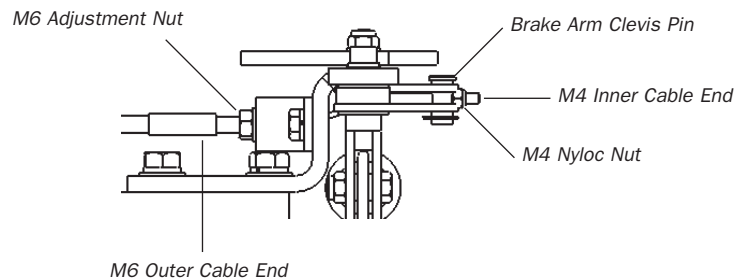

Figure 9.6.5.4 Brake Cable End Fitment
82. Grip the Brake Cable Cable End with pliers and tighten the M4 Nyloc Nut until it contacts the edges of the Brake Arms. If required, prise the Brake Arms apart and activate Brake Lever until the M4 Nyloc Nut “jumps” in between the Brake Arms and locates against the Brake Arm Clevis Pin. See Figure 9.6.5.4.